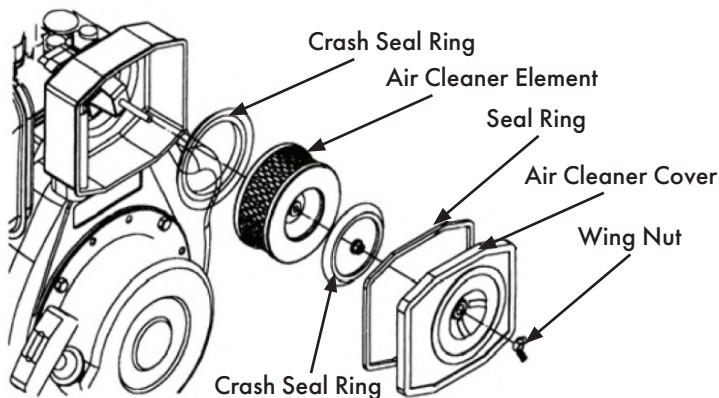

Figure 17
- Remove the air filter from the air filter housing, Fig. 17.